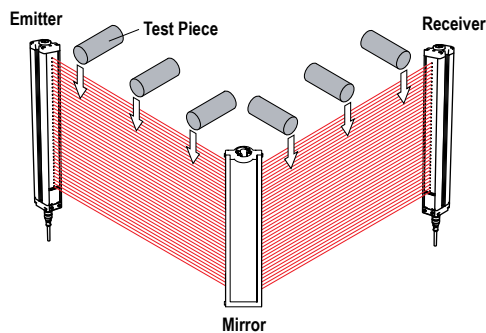

Figure 15. Trip Test with Corner Mirror
5. If mirrors are used in the application: Test the defined area on each leg of the sensing path (for example, emitter to mirror, between mirror and receiver, see Figure 15 on page 25).